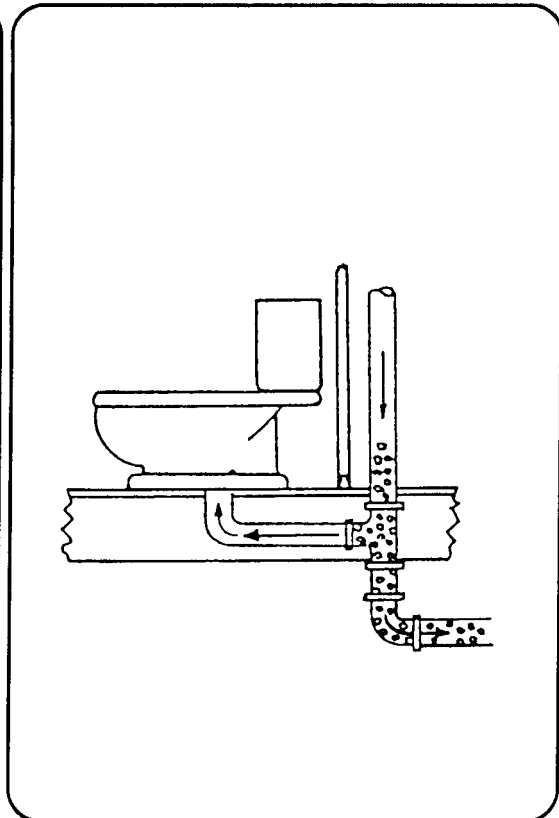

Figure 9-5. Trap seal loss by back pressure
d. *Back Pressure.* Back pressure within a sanitary drainage system is caused by simultaneous fixture use that overtaxes the plumbing system, causing a positive pressure that affects the water seal of a trap. A large flow may completely fill the pipe, causing the compressed atmospheric gases to offer resistance because they cannot slip past the flow of the water and exhaust at a roof terminal. As the water falls, the pressure increases and compresses the air, and the trap seal blows out of the fixture (Figure 9-5, page 9-4).